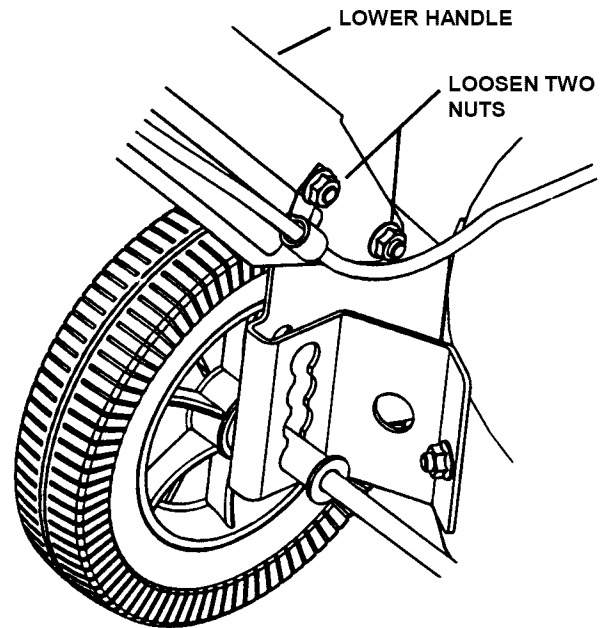

FIGURE 2
STEP 3: Handle height is adjustable for different height of operators. Loosen the two nuts on the inside of each of the lower handles. See Figure 2. Move the handle up or down to the desired height. Retighten all nuts securely after adjustment.